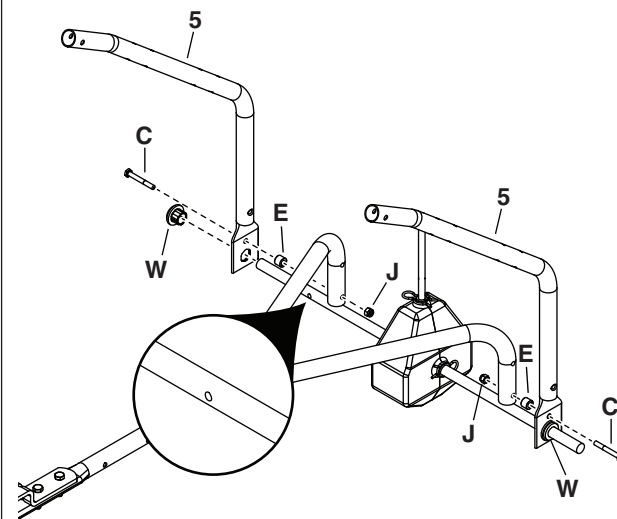

Figure 3
STEP 3: (SEE FIGURE 3)
- Insert the hex bushings (W) into the ends of the hopper support tubes (5).
- Assemble the axle/gearbox assembly and hopper support tubes (5) to the hitch support tubes as shown using two 1/4" x 2" hex bolts (C), spacers (E), and 1/4" nylock nuts (J). **Do not tighten completely.**